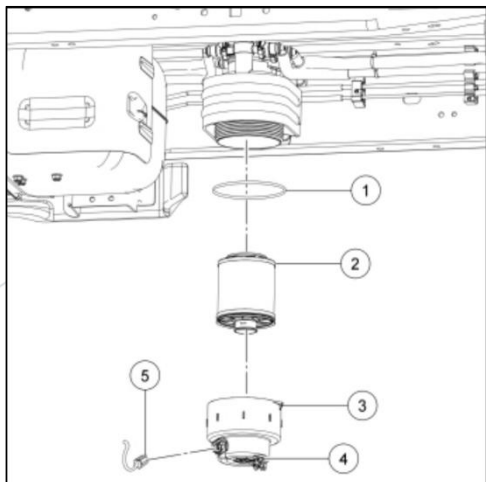

Figure 17: 2011-2016 Chassis-Mounted Filter
1. Place a large catch container under the fuel conditioning module shown in Figure 17. To reduce the siphoning effect, it is recommended to perform this procedure with less than half a tank of fuel (refer to Step 4).
2. If you suspect bad fuel or are curious about water content, open the water drain (#4 in Figure 17) and catch the fuel/water in a clear container such as a water bottle. Close the drain valve.
3. **Unplug the Water in Fuel sensor (#5 in Figure 17). Move the open harness plug to a location where fuel will not spill on it.**
- a. **IMPORTANT:** You cannot open the water drain valve at the bottom before performing Step 4 as the siphon effect will drain the whole fuel tank. There is a check valve in the top of the module that the cartridge filter (#2 in Figure 17) pushes against, so you must drop the cap and filter down to close the check valve.